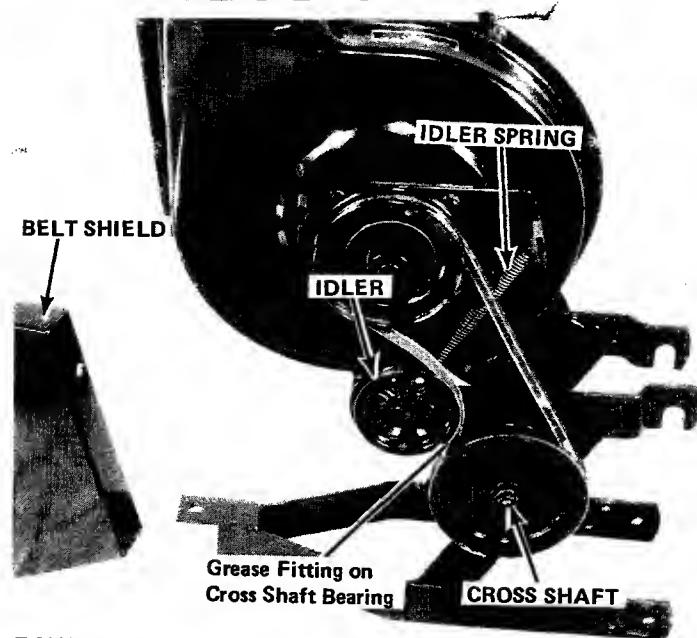
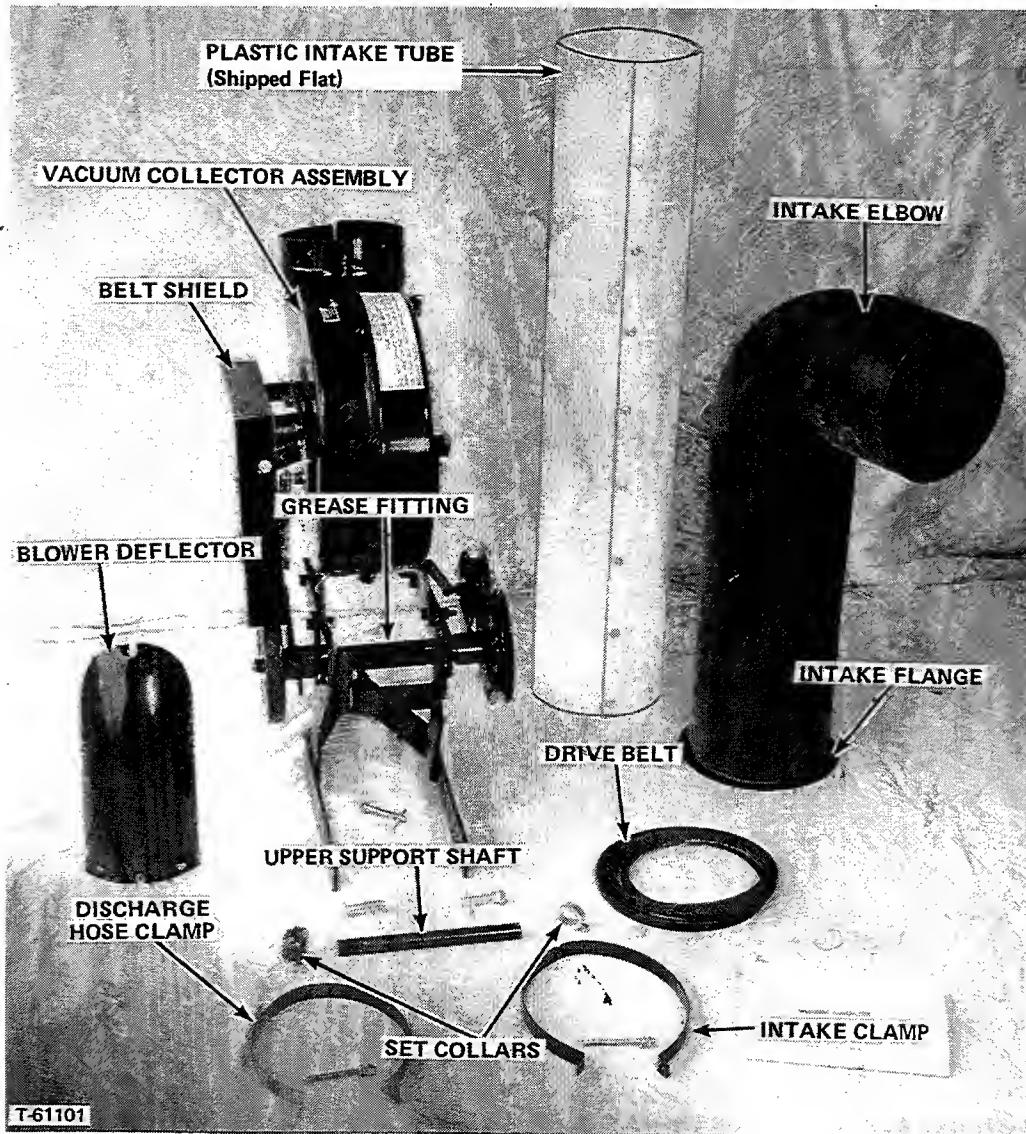

FIGURE 4
FIGURE 8
Every 10 hours of operation lubricate the grease fitting in blower drive cross shaft - housing under the blower (Figure 4).
Figure 4 shows the blower belt drive with the belt shield removed. Be sure the drive belt and idler spring are installed as shown and that shield is installed as shown in Figure 8.
The vacuum collector is shipped approximately as shown in Figure 8 plus a separate box for the discharge hose (not shown). Proceed as follows:
5. Make sure that intake flange is fully inserted in the long end of intake elbow (Figure 8). Place intake clamp over elbow and flange and tighten securely.